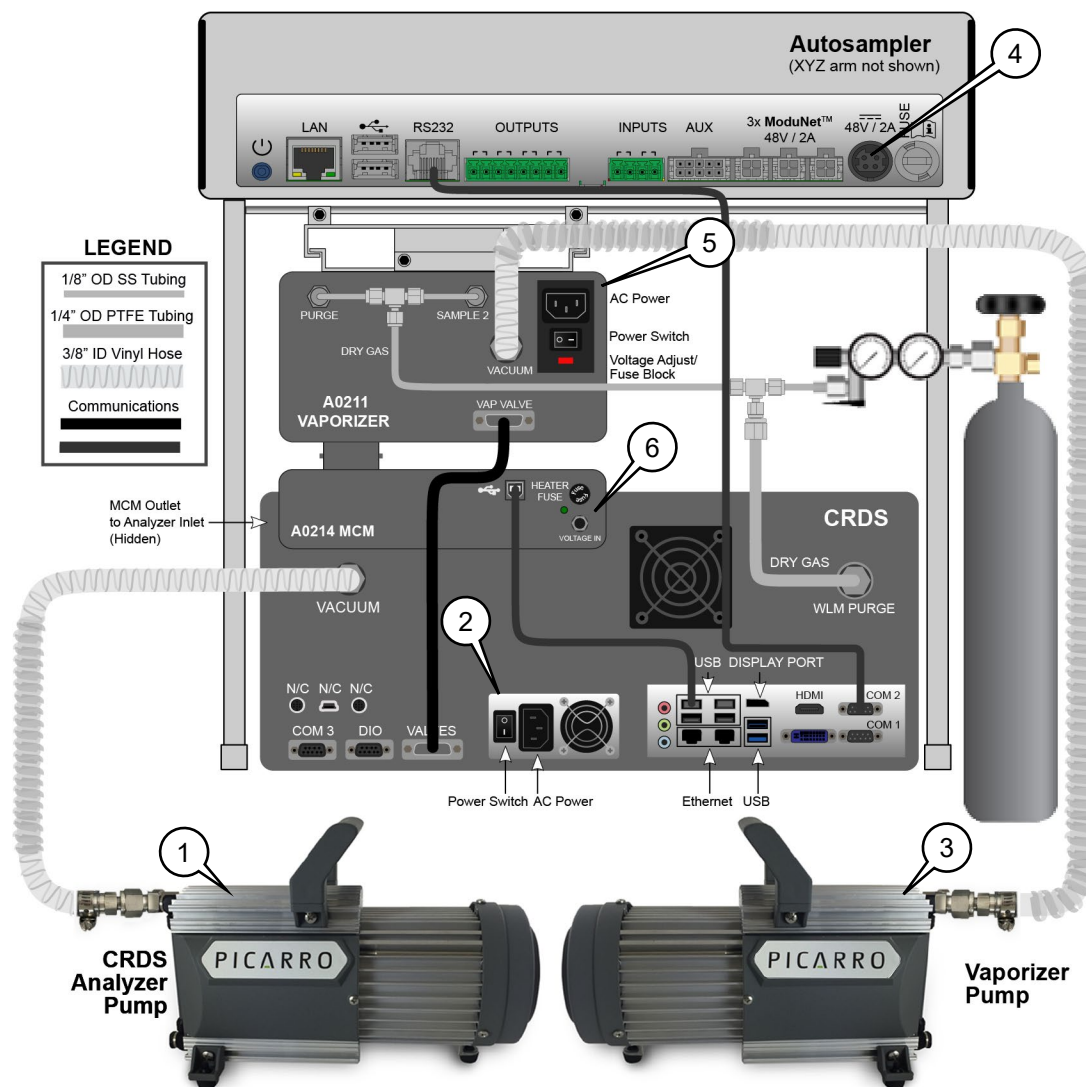

Figure 26: Startup Power-On Sequence
Be sure to turn on the modules in the correct order (Figure 26).
1. Apply power to the components in the sequence shown below in Figure 26.